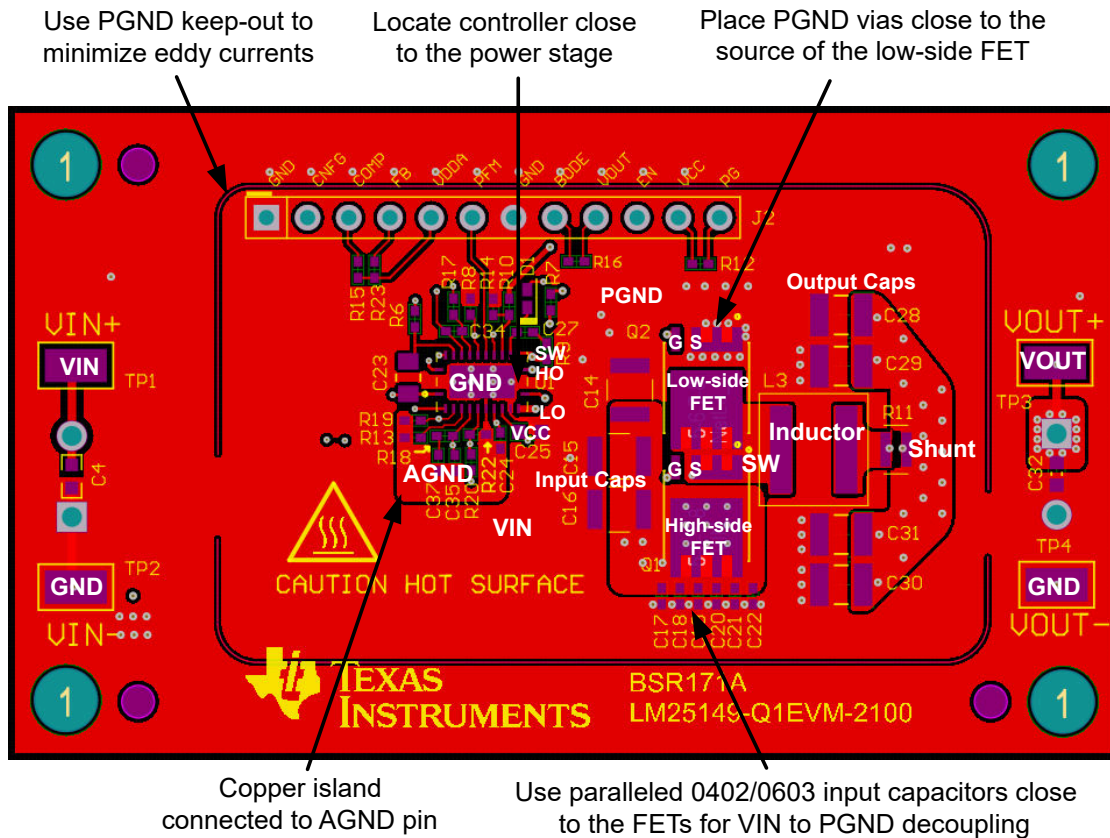

Figure 9-36. PCB Top Layer – High Density, Single-sided Design
Figure 9-36 shows a single-sided layout of a synchronous buck regulator with discrete power MOSFETs, Q1 and Q2, in SON 5-mm × 6-mm case size. The power stage is surrounded by a GND pad geometry to connect an EMI shield if needed. The design uses layer 2 of the PCB as a power-loop return path directly underneath the top layer to create a low-area switching power loop of approximately 2 mm2. This loop area, and hence parasitic inductance, must be as small as possible to minimize EMI as well as switch-node voltage overshoot and ringing.
- Make the ground connections to the LM25148 controller as shown in Figure 9-36. Create a power ground directly connected to all high-power components and an analog ground plane for sensitive analog components. The analog ground plane for AGND and power ground plane for PGND must be connected at a single point directly under the IC – at the die attach pad (DAP).